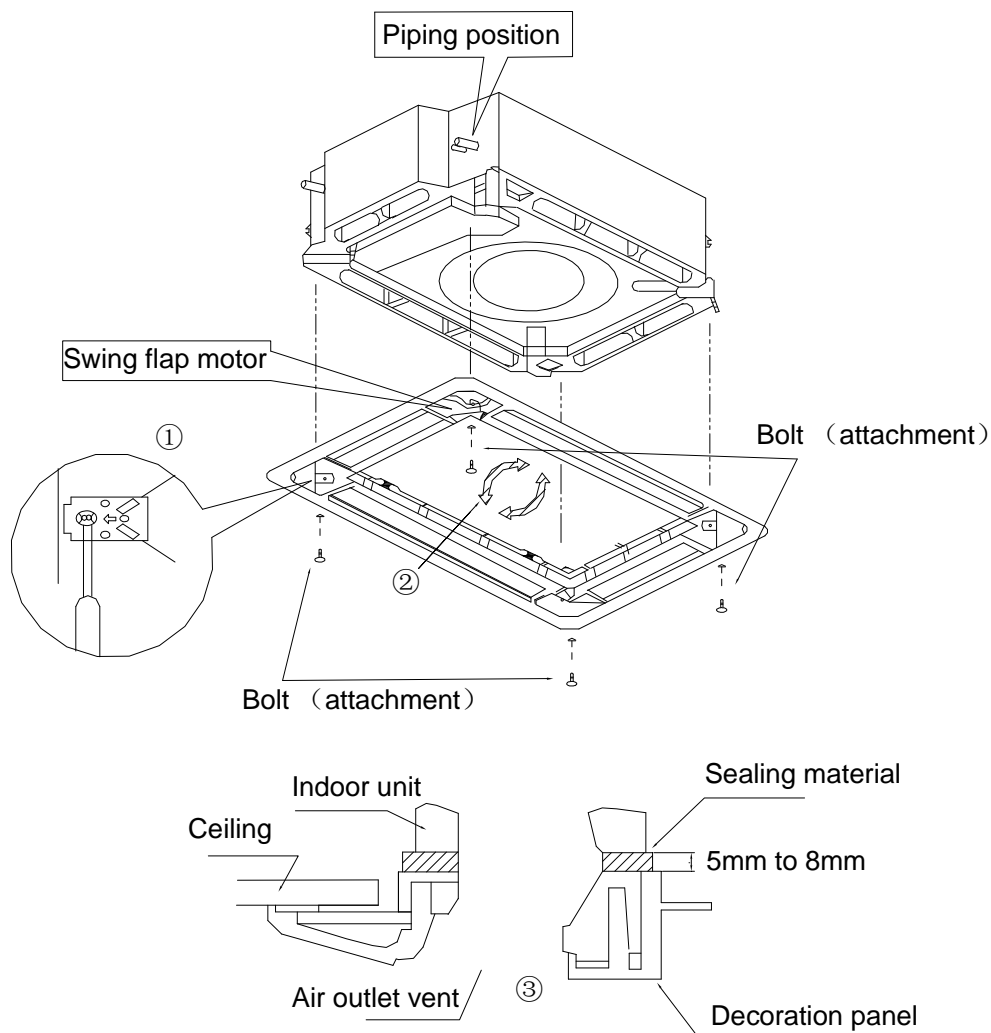

Fig 4
of the panel to the piping position of the indoor unit as shown by fig.4.
- ① Screw the 4 hexagon head screws under the latches in about 15mm. (The panel would rise)
- ② Adjust the panel by turning it toward the direction pointed by the arrow as shown in fig.4, so that the adjust board connect the ceiling well.
- ③ Tighten the screws until the thickness of the sealing material between panel and indoor unit reduced to 5-8mm.